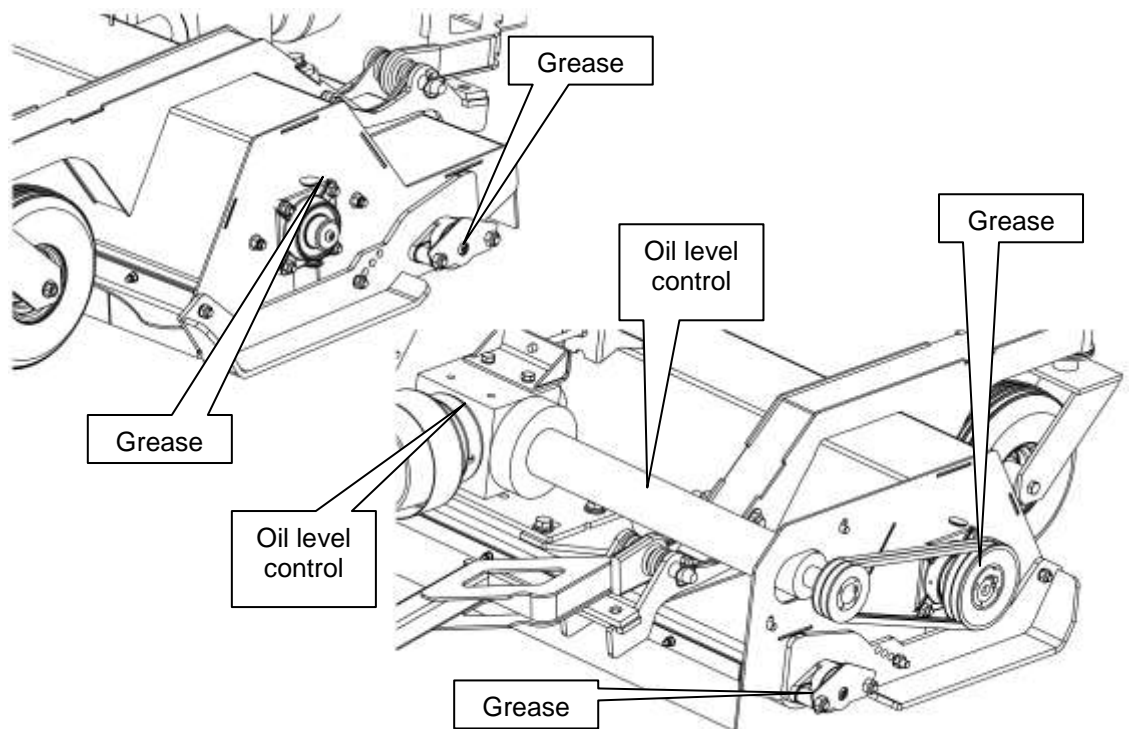

Figure 6.1.1 – Guards are removed for clarity
- g) Grease the locations shown in figure 6.1.1. (Greasing decals not illustrated)